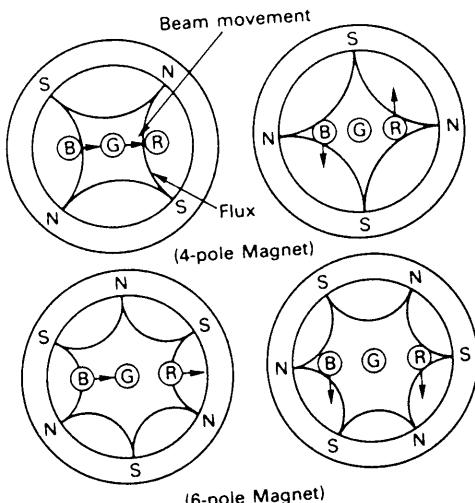

Fig. 9.
2. Adjustment of 6-pole magnets affects red and blue beams onto the green beam. (Fig. 9)